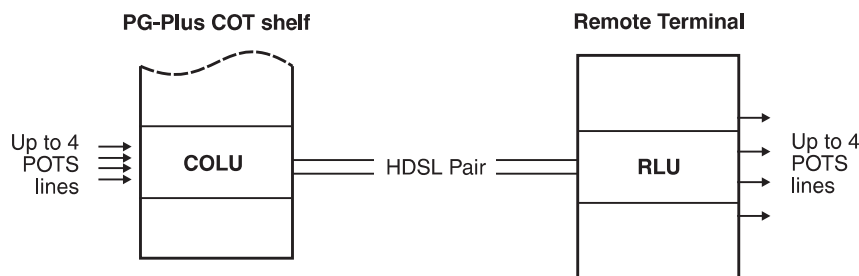

Figure 1. Typical PG-Plus System
1.2 PG-Plus Systems. A PairGain PG-Plus system provides bi-directional transport of multiple DS0s over a single, unconditioned wire pair using High-bit-rate Digital Subscriber Line (HDSL) technology. Using existing cable, PG-Plus provides for higher bandwidth needs of residential and business customers by providing multiple POTS interfaces on a single HDSL twisted-pair wire. Figure 1 shows a minimally configured PairGain PG-Plus system that consists of: